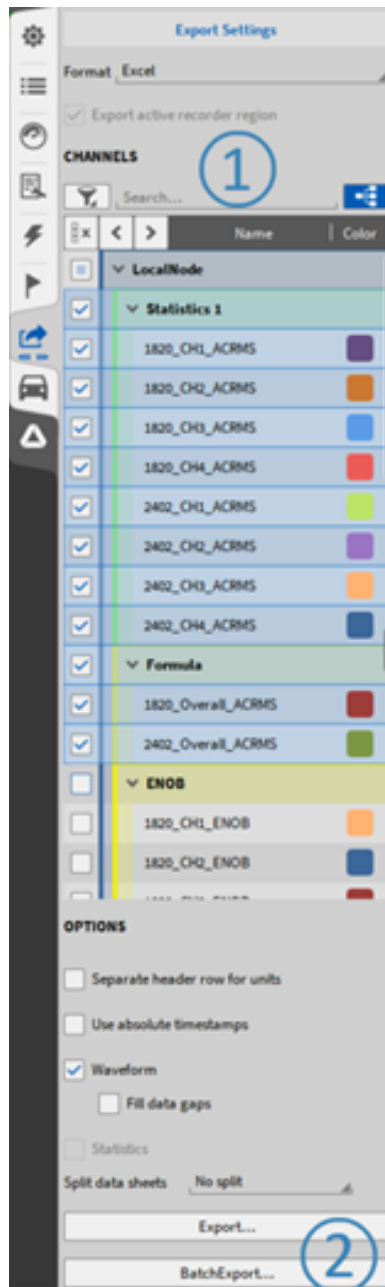

Fig. 11.22: Export menu
Select the desired export format (including the individual options) and the channels to be exported (see ① in Fig. 11.22). Press the Batch Export button next (see ② in Fig. 11.22).